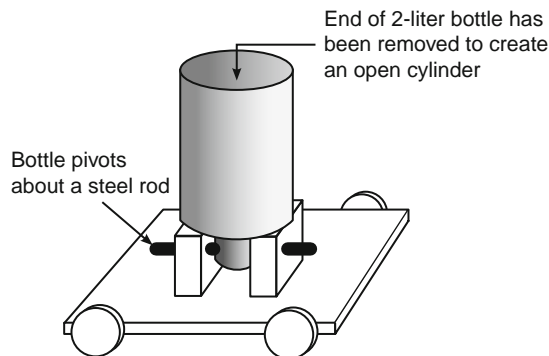
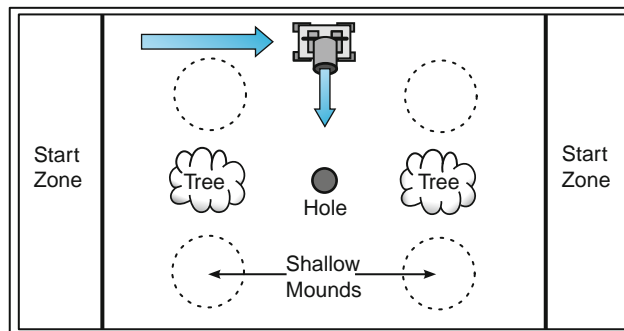

FIGURE 21.3 Proposed Design Concept for the “Dueling Duffers” Design Competition
FIGURE 21.4 Playing Field for the “Dueling Duffers” Design Competition
A concept for a design competition named *Dueling Duffers* has been proposed and is shown in Figure 21.3. The object of this head-to-head competition is to be the first to deposit up to 10 golf balls into a hole in the center of the tabletop playing field of Figure 21.4.
The path of the vehicle and the direction in which the balls are dumped are indicated in Figure 21.4. For this example, you are asked to (1) identify the main sources of risk and (2) propose experiments to address those sources of risk.